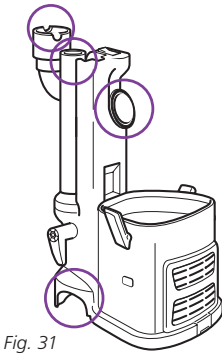

Fig. 31
- Remove the dust cup and extension wand and separate the portable *Lift-Away*® canister from the motorized floor brush. Look in all 4 openings for any blockages. **(Fig. 31)**